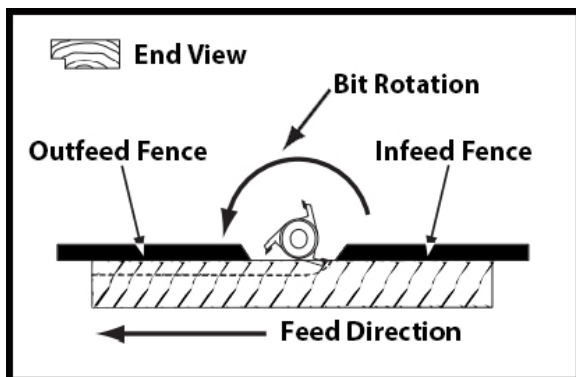

Figure 43
- Routing with the grain will give a superior finish and is safer for the operator or feeding the stock on the table so the grain points down and toward you as viewed on the edge of the stock. (See Fig.43). Note: If the grain changes direction along the edge, decrease the cutting depth and make additional passes.